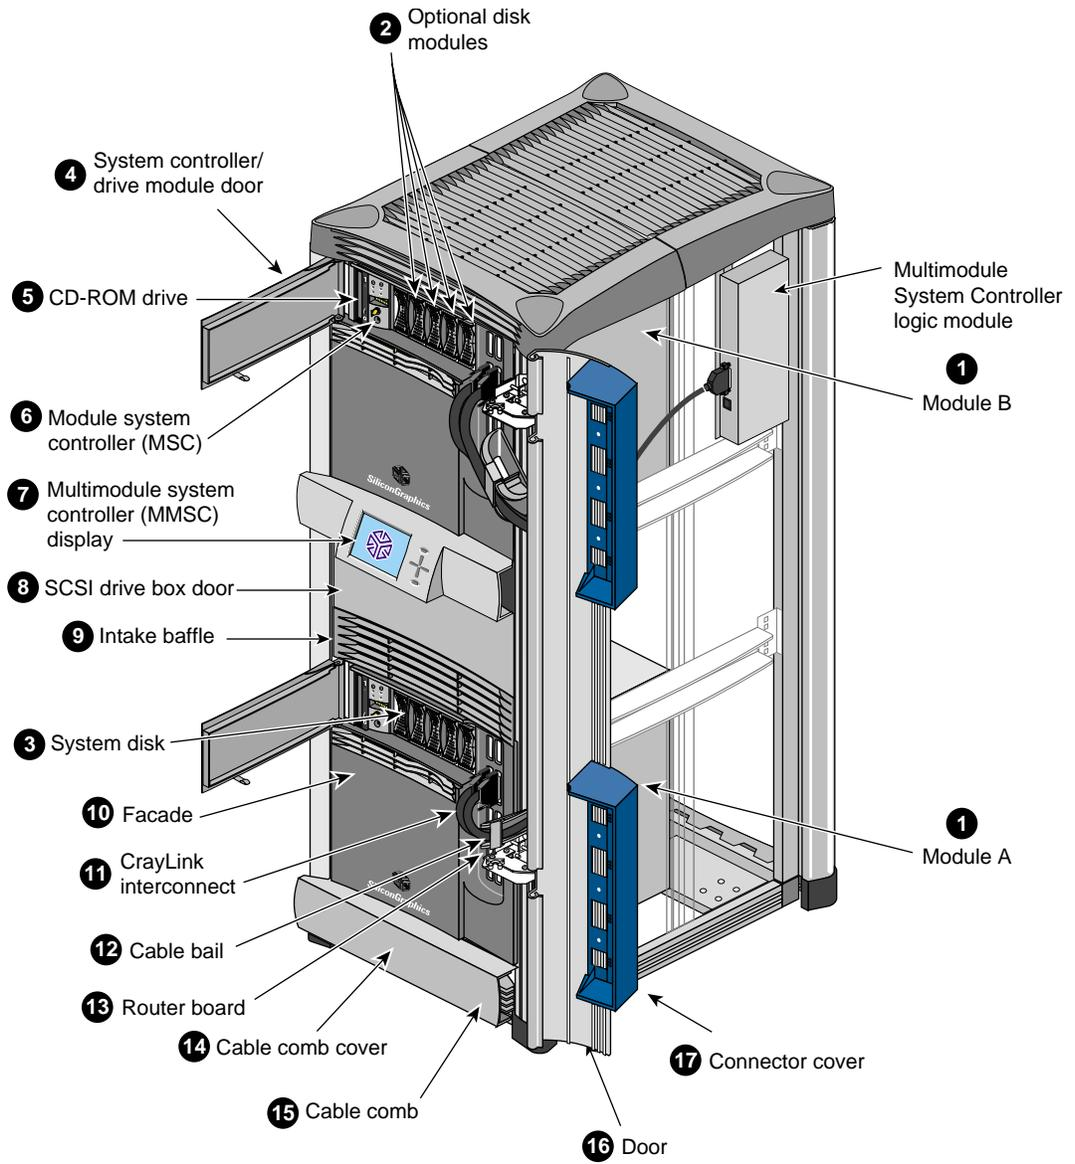
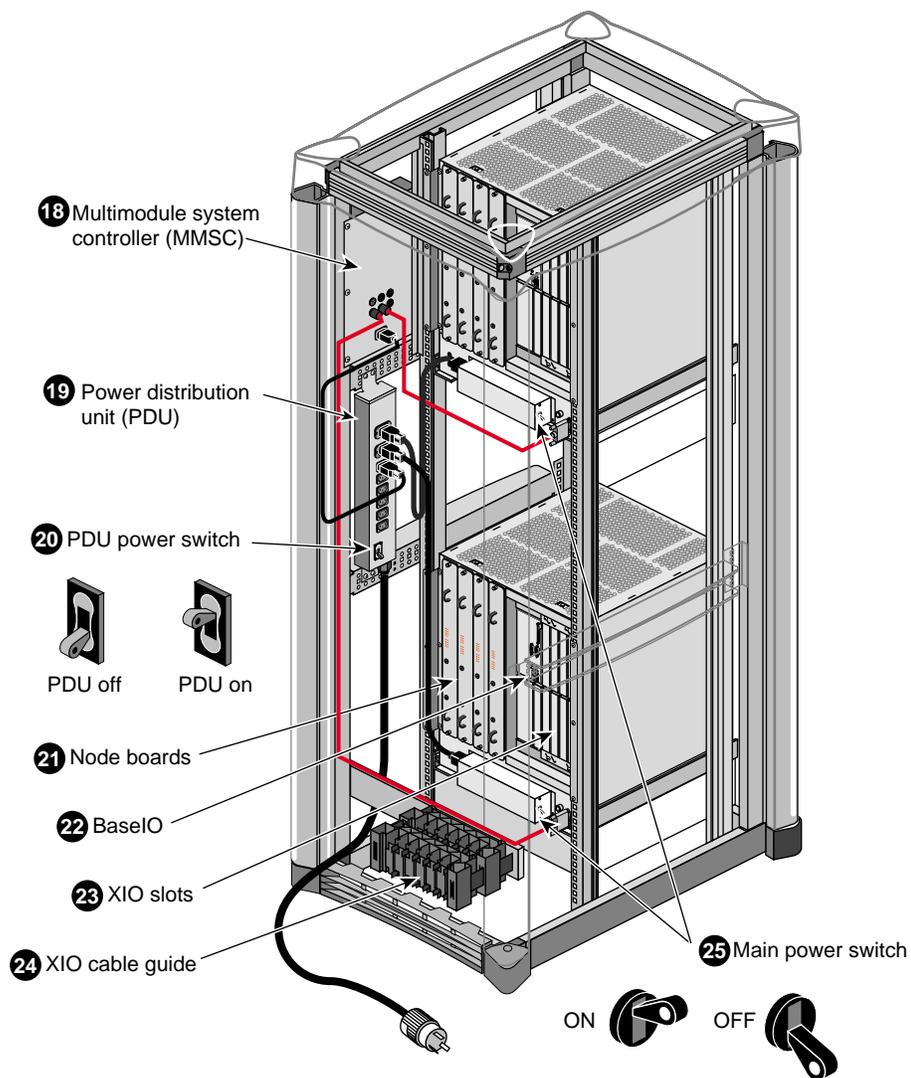

Figure 2-1 Origin2000 Rackmount System (Front View)
Figure 2-2 Origin2000 Rackmount Rear View
Figure 2-1 and Figure 2-2 show the major parts of the Origin2000 rackmount system. These parts are briefly described in Table 2-1.
Note: In Figure 2-1, the side panel is removed for clarity.
Note: In Figure 2-2, the side panel is removed for clarity.
1. Module A/Module B	The modules shown in Figure 2-1 are independent computing subsystems with a separate set of CPUs (central processing units) disks, System Controller, and I/O connections. There can be up to two modules in a rack and up to sixteen modules in a multirack configuration.
3. System disk	The system disk contains the operating system and other key software directories. The system disk must be installed in the drive position shown in Figure 2-1. Note that the system disk is oriented differently than the other drives in the system. See "Loading the Single Connector Assembly (SCA) Drives Into the System" on page 63 for additional information.
The MMSC and display are two separate units as shown in Figure 2-1 and Figure 2-2.